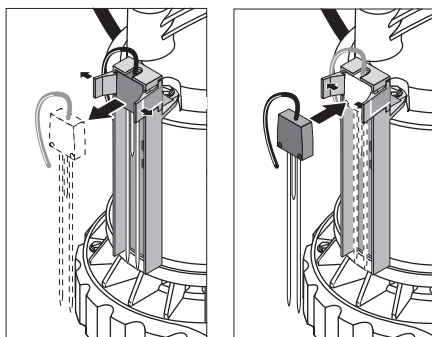

Figure 11: Switch snaps out of bracket as shown. Be careful not to spread the catches too far.
- 3A. Unsnap the switch from the switch bracket and remove it from the pump (see Figure 11, Page 5).
To remove the switch, spread the tabs on the top of the bracket just far enough to slide the switch out between them. Use the wire to push the switch forward out of the bracket (see Figure 11).
bracket (see Figure 11).